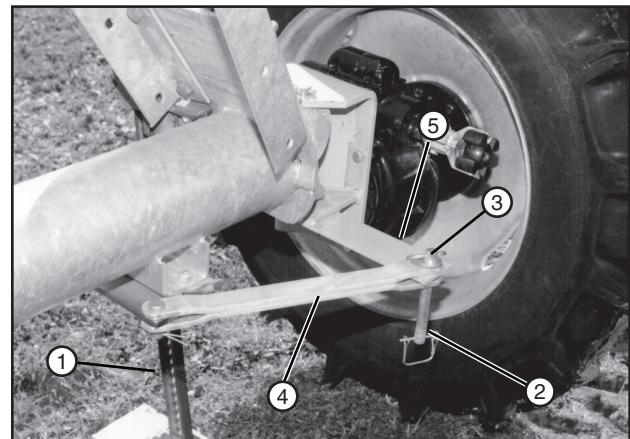

Figure 39-3 1. Jack 4. Tow Link Bar
3. The wheels on each drive unit must be turned into the operating position. Use a jack to lift one side of the drive unit until the tire is off of the ground. See figure 39-3.
4. Remove lynch pin from torque pin, then remove torque pin and disconnect tow link bar from steering arm. See Figure 39-3.